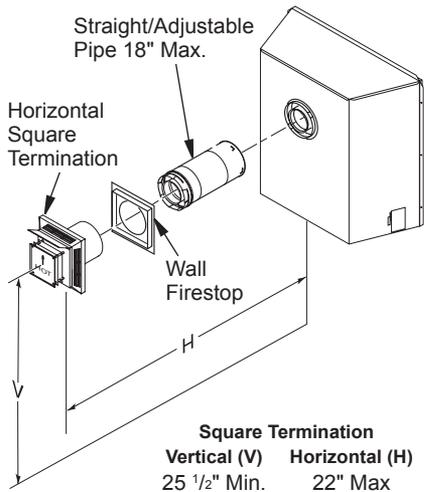

Figure 18 - Horizontal Termination Configuration for Flush Installation (Model (V)CD36R)
1. Set fireplace in its desired location and determine route your horizontal venting will take. Do not secure fireplace until all venting has been installed. Some installations require sliding fireplace in and out of position to make final venting connections. Figures 18 through 25 on pages 14 through 17 show different configurations for venting with horizontal termination that will help you decide which application best suits your installation. Check to see if wall studs or roof rafters are in the path of your desired venting route. If they are, you may want to adjust location of fireplace.
Figures 18 through 25 show different configurations and alternatives for venting with horizontal termination. Each figure includes a chart with critical minimum and maximum dimensions which **MUST** be met.